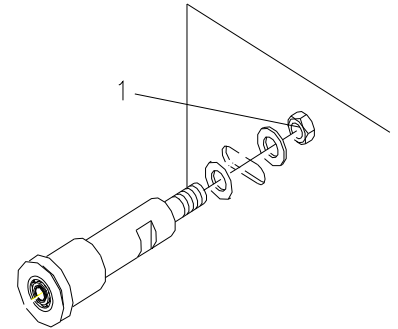

Fig. 7
- Loosen the nut (fig. 7 pos 1) and slide the shaft (pos 2) to the right.
- Tension the v-belt by sliding the shaft (pos 2) to the left, and fasten the nut.